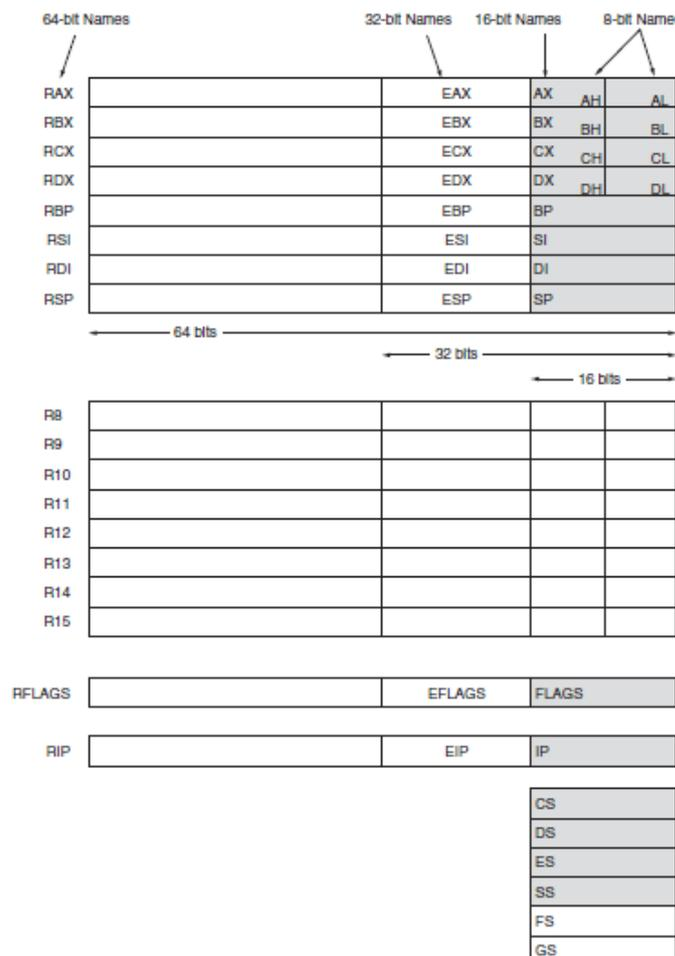

Figure 2-1: The programming model of 8086 through Core2 microprocessor
- AX is used for instructions such as multiplication & division instructions (Figure 2-1).